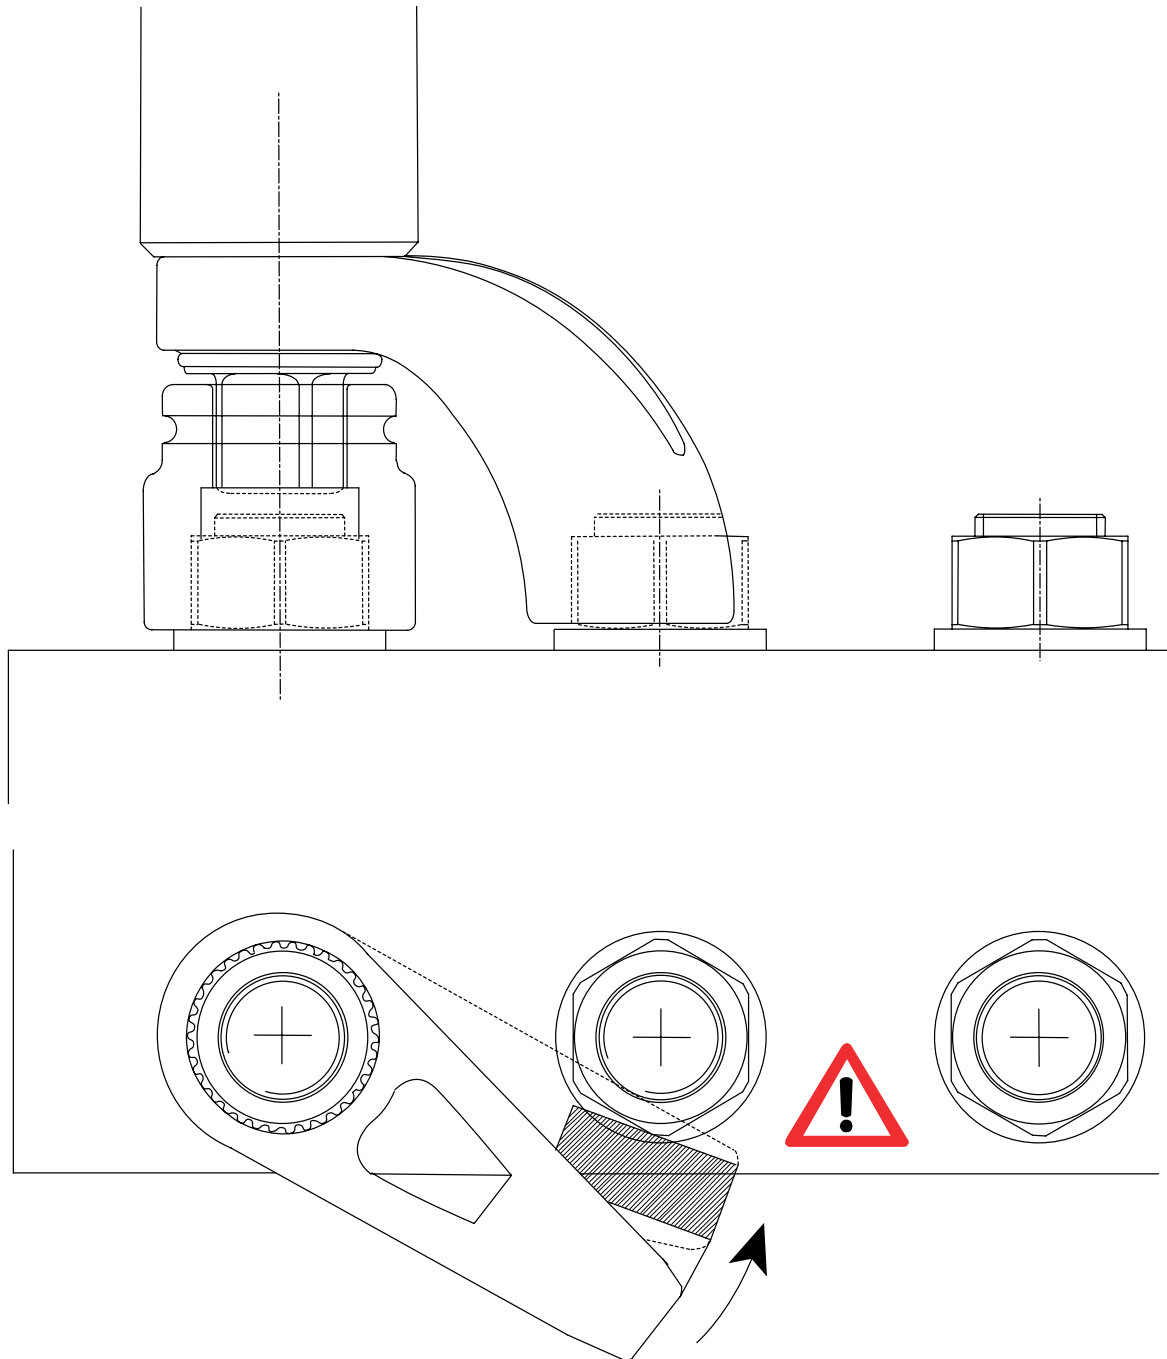

Fig. 2.1. Reliable Support of a Reaction Arm
- The hazard of entrapment exists between a reaction arm and a support (see Fig. 2.1). The reaction arm must always reliably rest against a support (e.g., a bolt).
NOTE : When the tool is started, the reaction arm will rotate towards the nearest rigid structure, in the opposite direction to the drive rotation, and lock against it. Ensure that the point at which the reaction arm touches the rigid structure is as indicated in Figures 2.1 and 2.2, and at the same level as the socket.